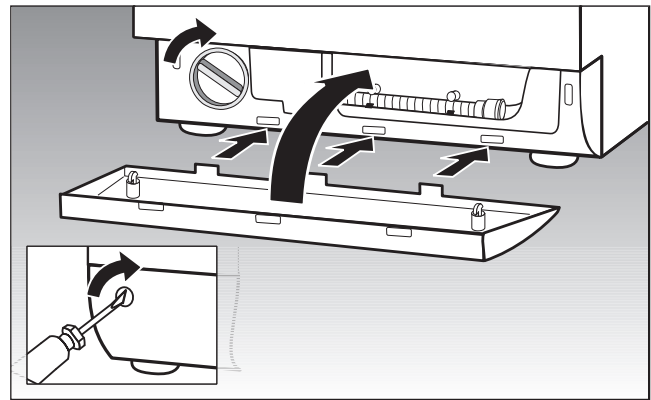

Figure 29.
- Screw the cover back into place in the pump and reattach the kick panel. Be sure to turn the catches so that the slots are vertical. See Figure 29.